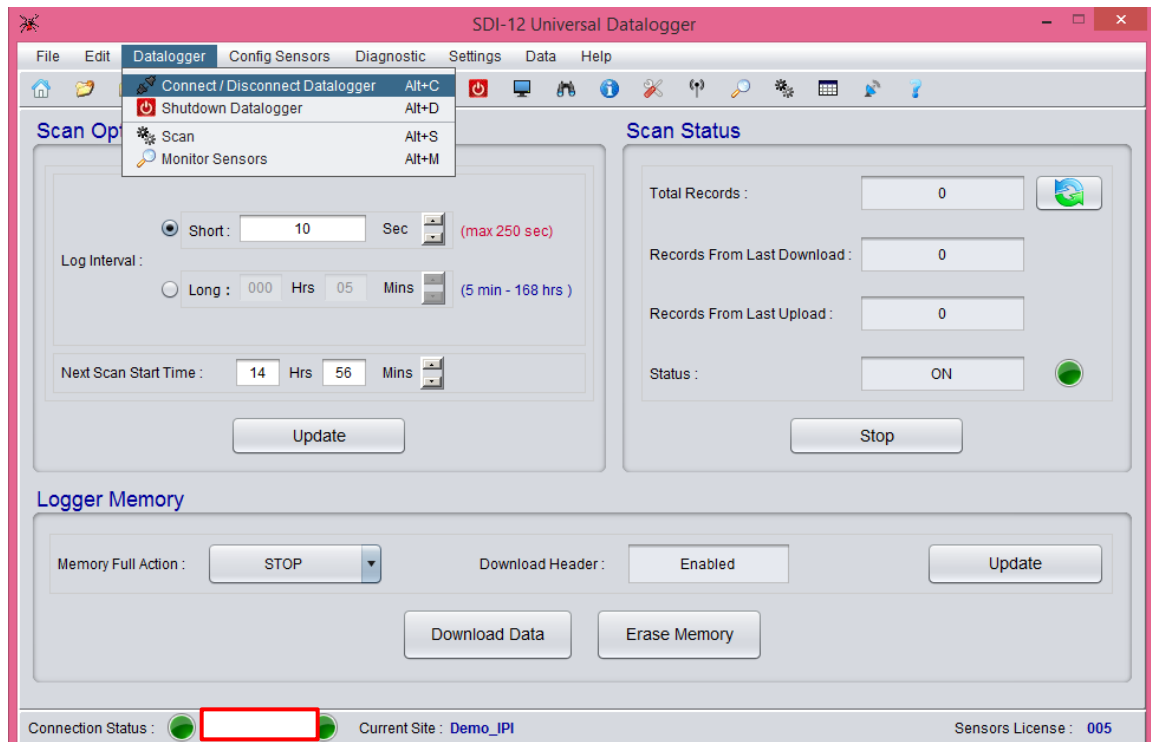

Figure 45 Scan status indicator in Scan window
- After updating, colour of “Scan Status” will change from Red to Green (as displayed at the bottom left corner of figure 45 below). Now click “Datalogger” followed by “Connect/Disconnect Datalogger”